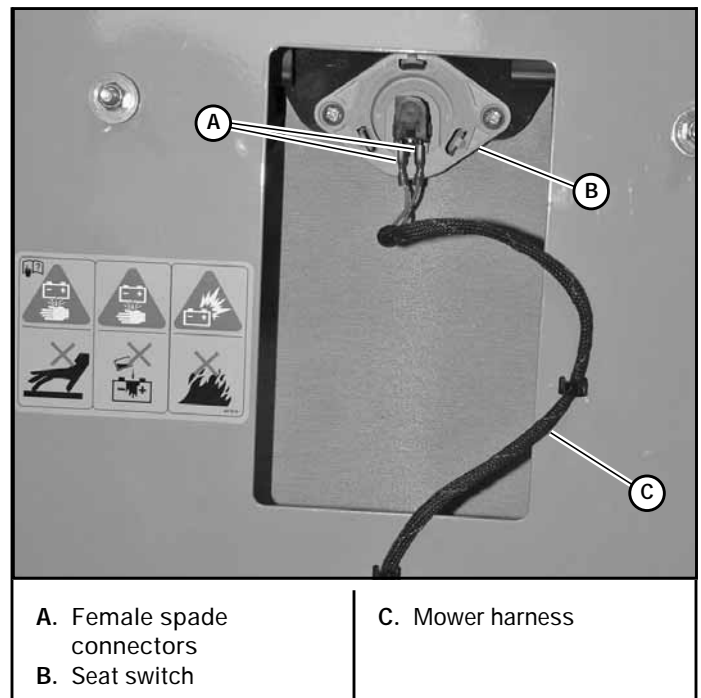

Figure 6-1
3. Raise the seat platform and disconnect the mower harness from the seat switch. Bypass the seat switch by connecting the two mower harness female spade connectors together. Figure 6-1
12. **IMPORTANT:** With the engine off, disconnect the two female spade connectors from each other (from step #3) and reconnect them to the seat switch. This must be completed so that the safety circuit is functioning properly. Figure 6-1